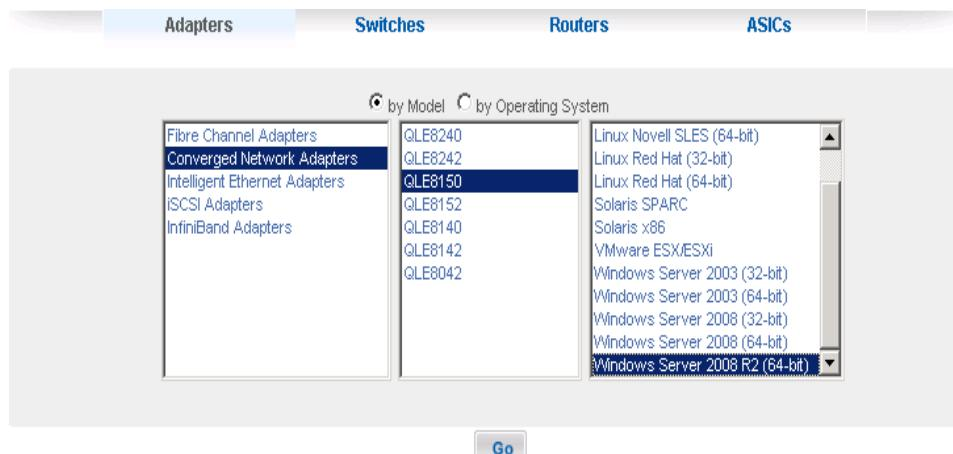

Figure 3-50. QConvergeConsole Download Selections (Example)
3. In the selection box (Figure 3-50), click Converged Network Adapters in the left column, your adapter model number in the middle column, and your operating system in the right column.